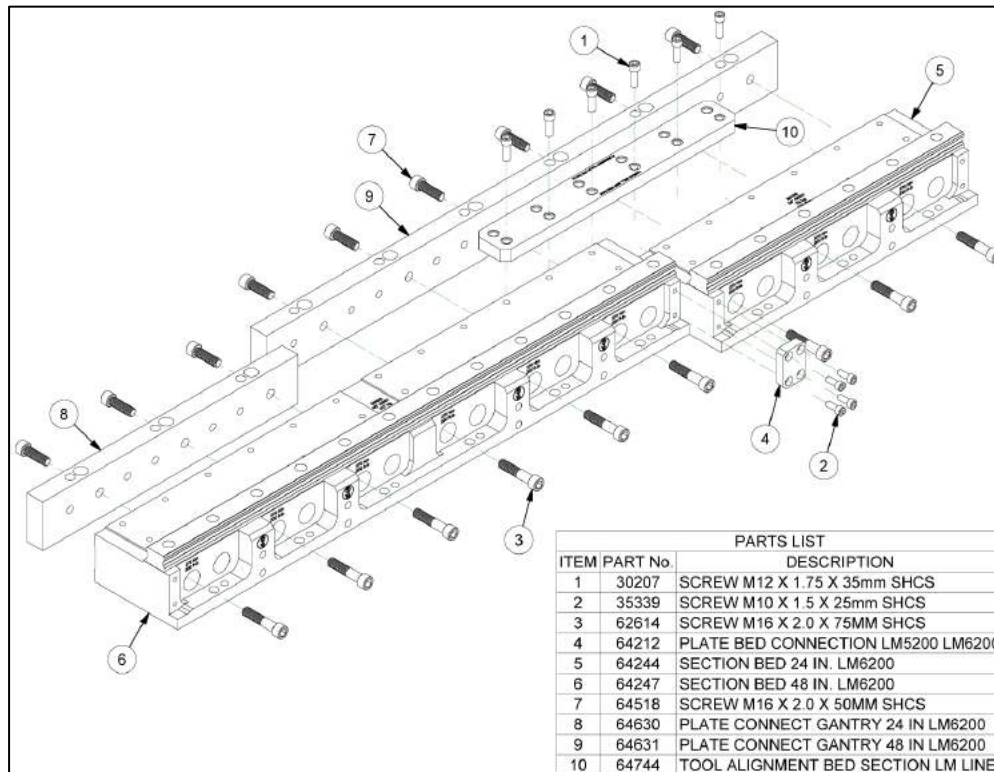

Figure 7
1. Position one 48 inch bed section (Item 6), one 24 inch bed section (Item 5), one 24 inch gantry connect plate (Item 8), and one 48 inch gantry connect plate (Item 9) as shown in Figure 7.
4. Push the bed sections together and install three M16 fasteners (item 3), and three M16 fasteners (Item 7) into the 48 inch bed section and 48 inch gantry plate. Tighten the fasteners to 10 ft-lb.
5. Place a bed alignment tool (Item 10) on the sections as shown in Figure 7, and tighten the fasteners to 65 ft-lb.
7. Install a bed connection plate (Item 4) as shown in Figure 7, and tighten the fasteners (item 2) to 40 ft-lbs.